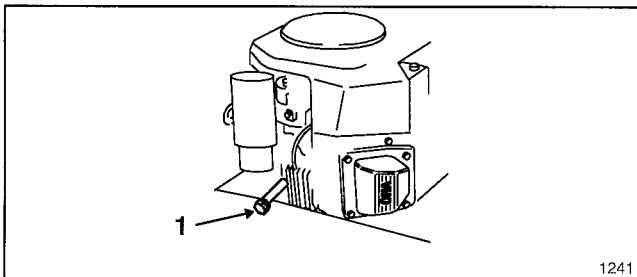

Figure 19
2. Turn engine off and place drain pan under frame, below drain plug (Fig. 19). Remove drain plug and allow all oil to flow into drain pan. Install drain plug after oil stops flowing.